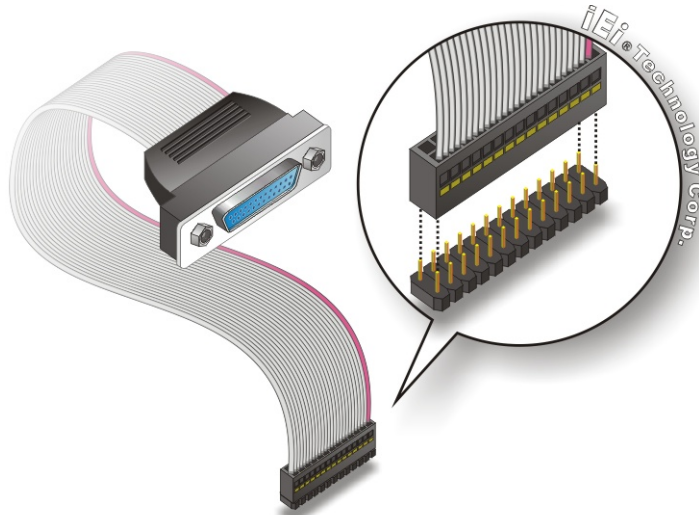

Figure 4-15: LPT Cable Connection
the PICOe-PV-D4251/N4551/D5251 LPT box-header connector. See Figure 4-15.
Step 3: Insert the cable connectors Once the cable connector is properly aligned with the 26-pin box-header connector on the PICOe-PV-D4251/N4551/D5251, connect the cable connector to the on-board connector. See **Figure 4-15**.